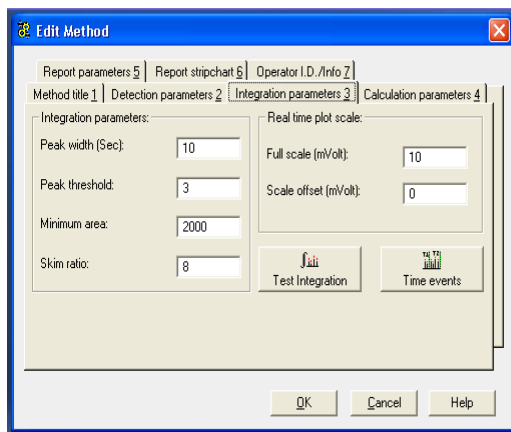

Figure 14. Edit Method Screen.
2. Select the **Integration parameters 3** tab and select **Test Integration** (*Figure 14*).